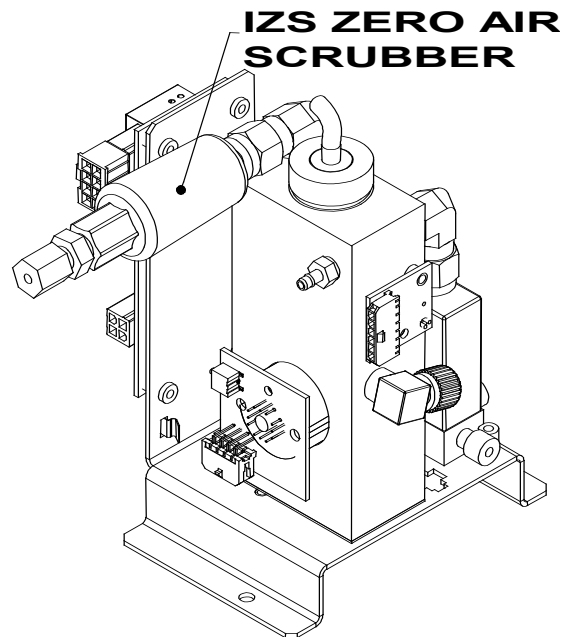

Figure 11-6: IZS O₃ Generator Zero Air Scrubber Location
3. The IZS zero air scrubber is attached to the brass elbow inlet fitting on the top of the O₃ generator assembly. See Figure 11-6.